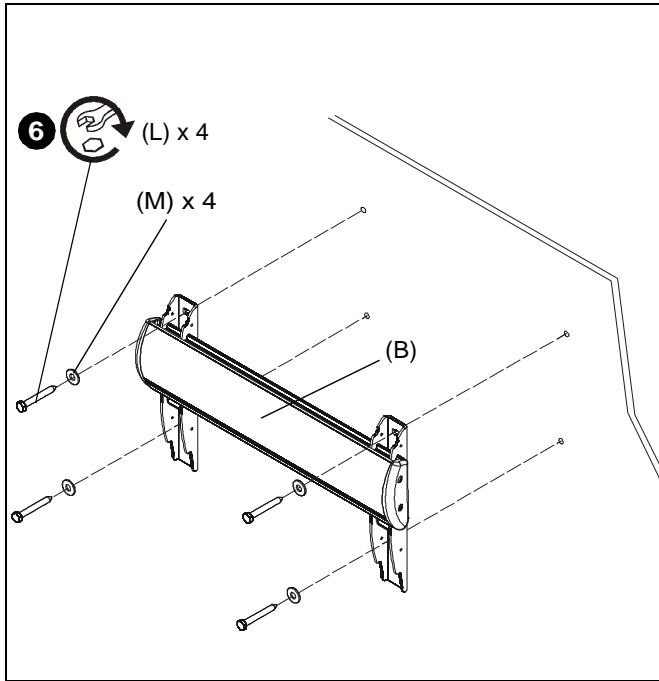

Figure 4
6. Install four 5/16 x 2 1/2" hex head lag screws (L) through four 5/16" washers (M), holes of mounting bracket and into drilled holes. (See Figure 4)